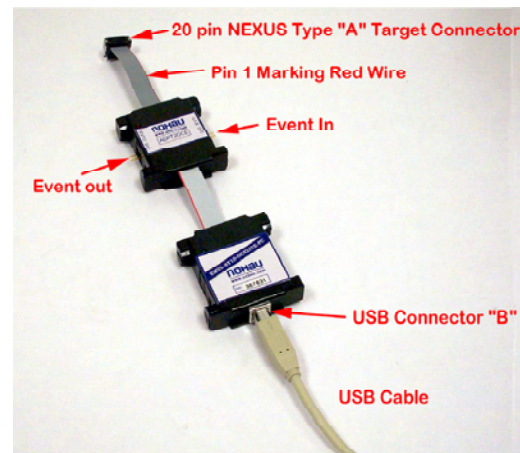

Figure 4.
1. Plug the 20-pin NEXUS type “A” connector onto the NEXUS connector on your target board, the red wire of the ribbon cable is pin 1 (see figure 4).